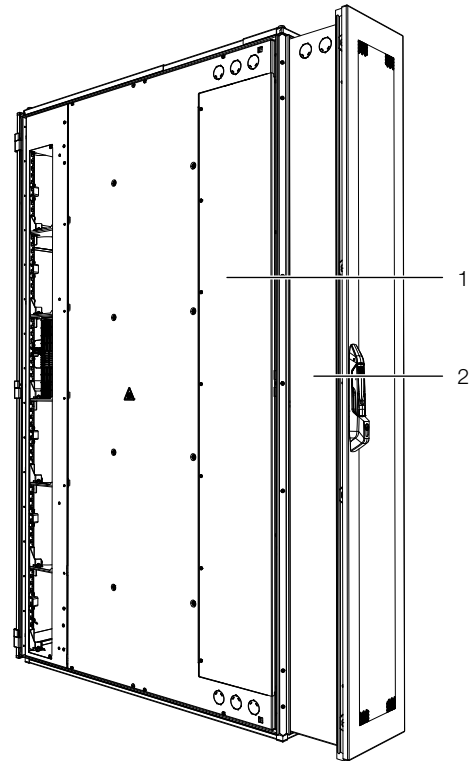

Fig. 31: Adaptor on the LCP Inline
- Attach the adaptor (fig. 31, item 2) to the rear opening of the LCP Inline using four of the supplied screws (fig. 31, item 1) each on the left and right.